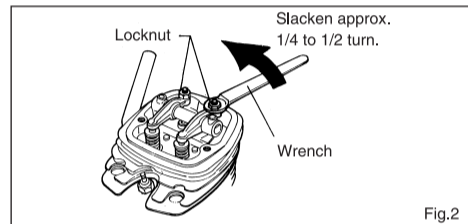

Fig.2
1. Carefully loosen the locknut on rocker-arm 1/4-1/2 turn with 5mm wrench. (Fig.2.)